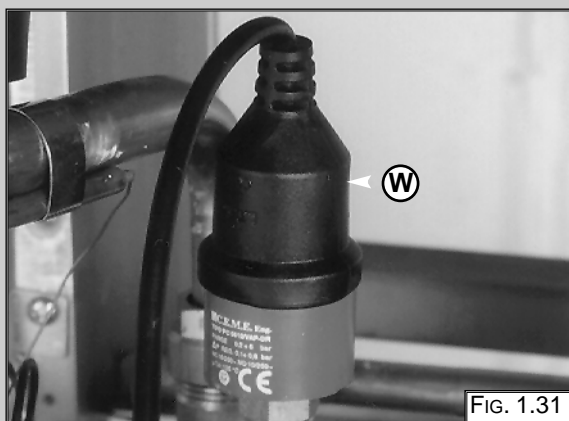

FIG. 1.31
1. Remove the cable of the pump pressure switch "W" (Fig. 1.31);